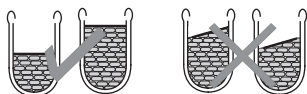

Fig. 1
-  Put the laundry into the spinner tub by putting the small-sized laundry in the bottom area to keep the balance of the tub. (figure 1)